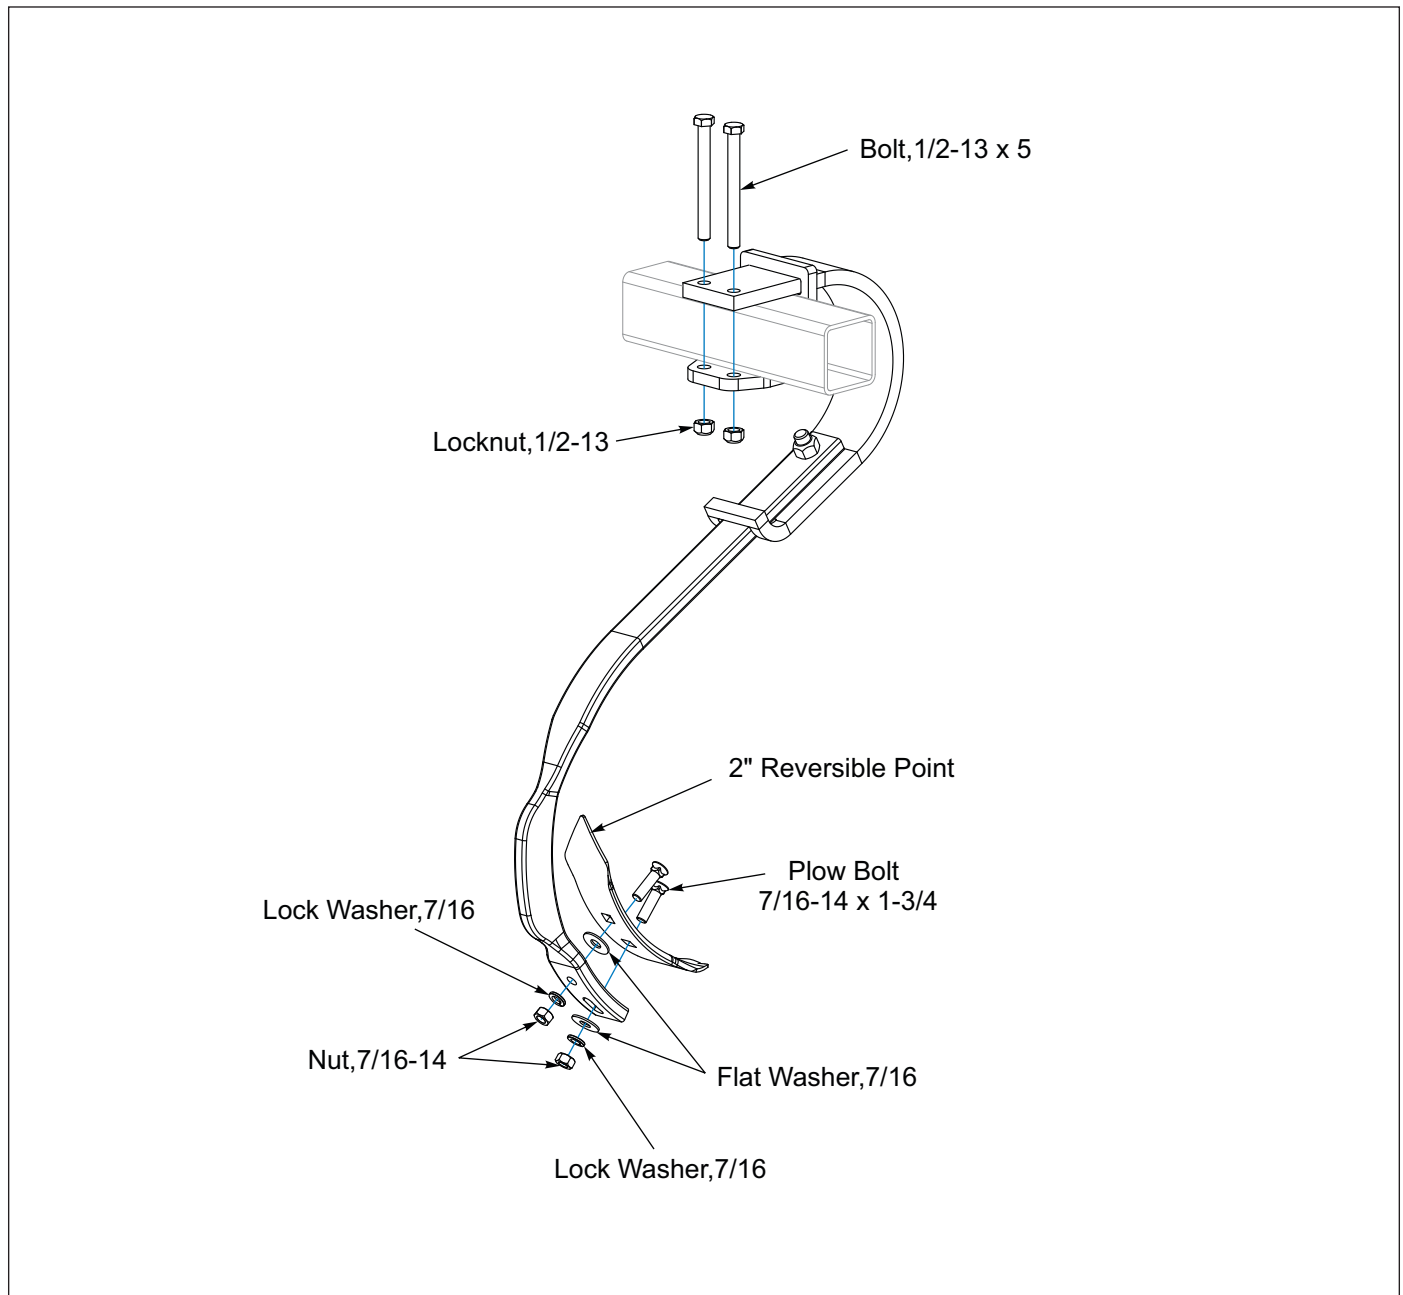

Figure 2-59: Wing Shank Installation
2. Assemble Points to Shanks as shown in **Figure 2-59**.